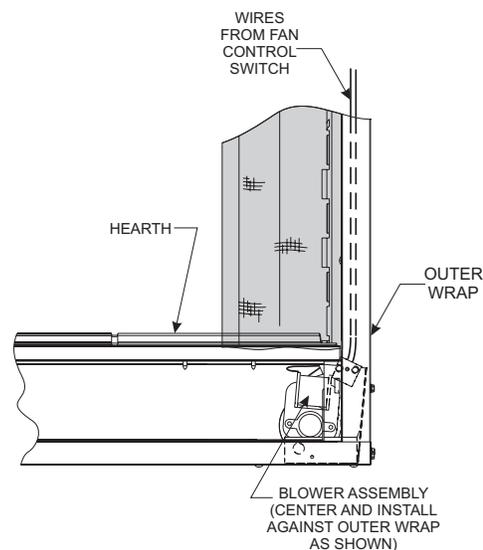

Figure 18
4. Insert blower assembly into interior, bottom of firebox. Position blower assembly so that you align the notch on back of blower assembly with the center screw on side/end panel, then push the blower assembly against firebox outer panel. The blower wheel must be centered with the side/end wall of the firebox. The magnets on the back and bottom of blower assembly will sufficiently hold blower assembly in place. **See Figure 18.**
7. The fan control wires will slide down between the firebox and outer wrap near the blower assembly. **See Figure 18.**
11. To complete the installation, plug the power cord into the junction box receptacle previously installed in the bottom of the firebox. **See Figures 18 and 20.**